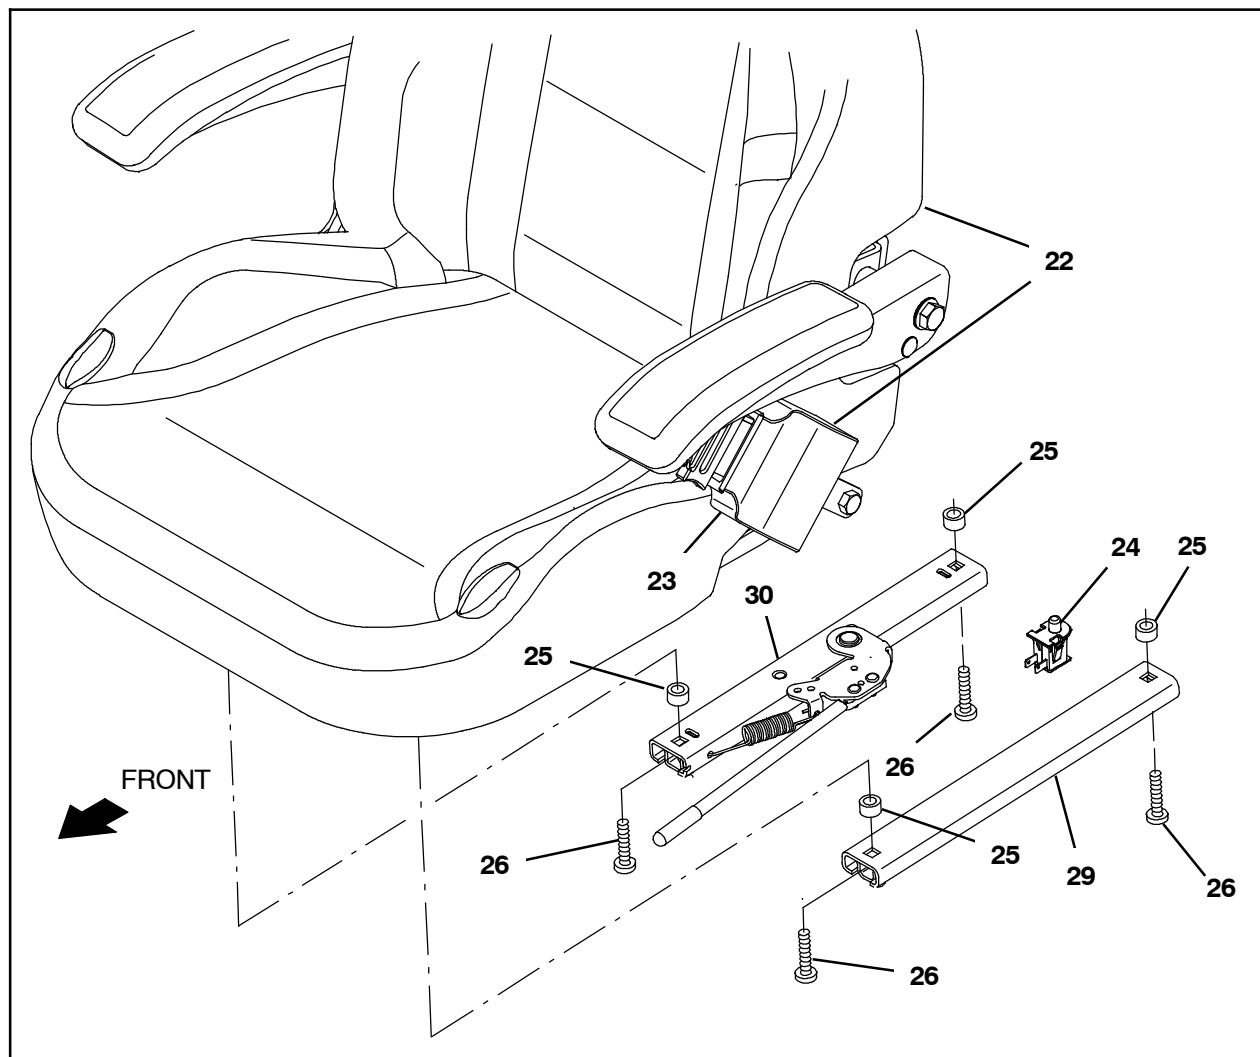

**FIG. 2**
4. Remove the hardware securing the upper operator platform to the seat channel and carefully lift the upper operator platform/operator seat from the seat channel. Set all mounting hardware aside. (Fig. 2)